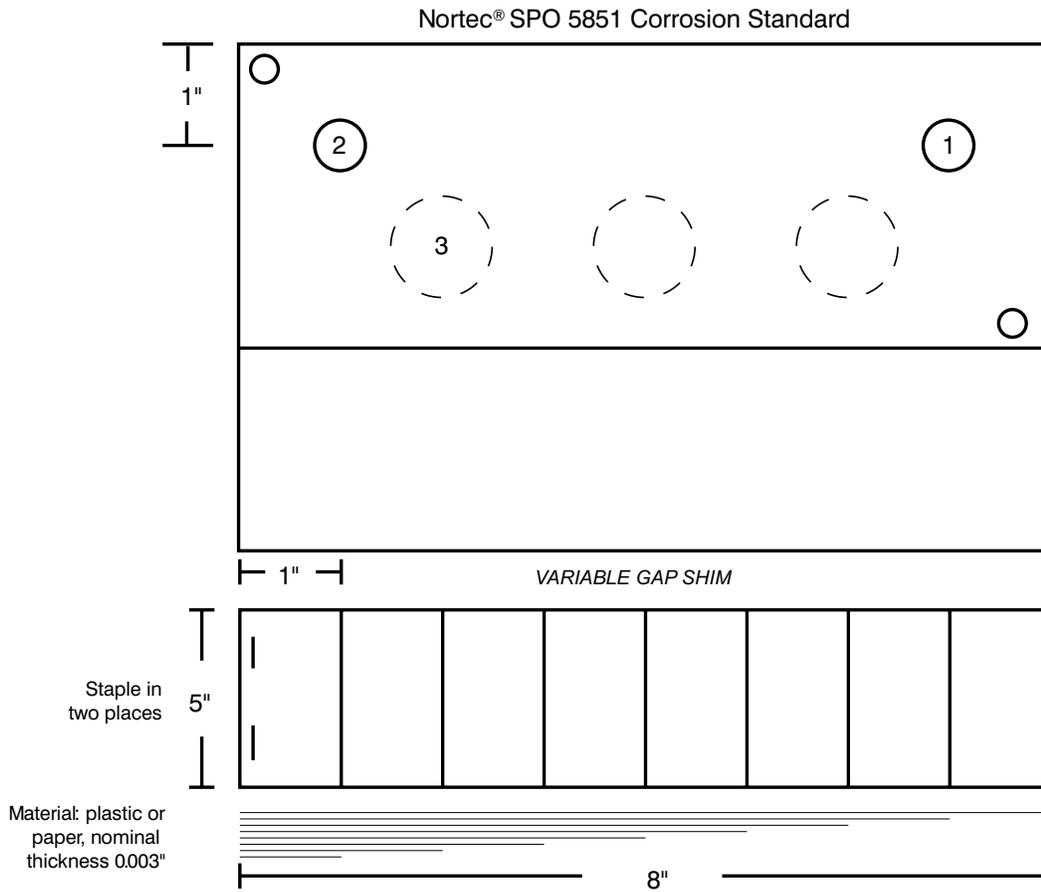

Figure 4-6. Dual Frequency Eddy Current for Second Layer Corrosion Standard
9. Place probe on corrosion STD at Position 1 and press NULL key. See *Figure 4-6* on the following page.